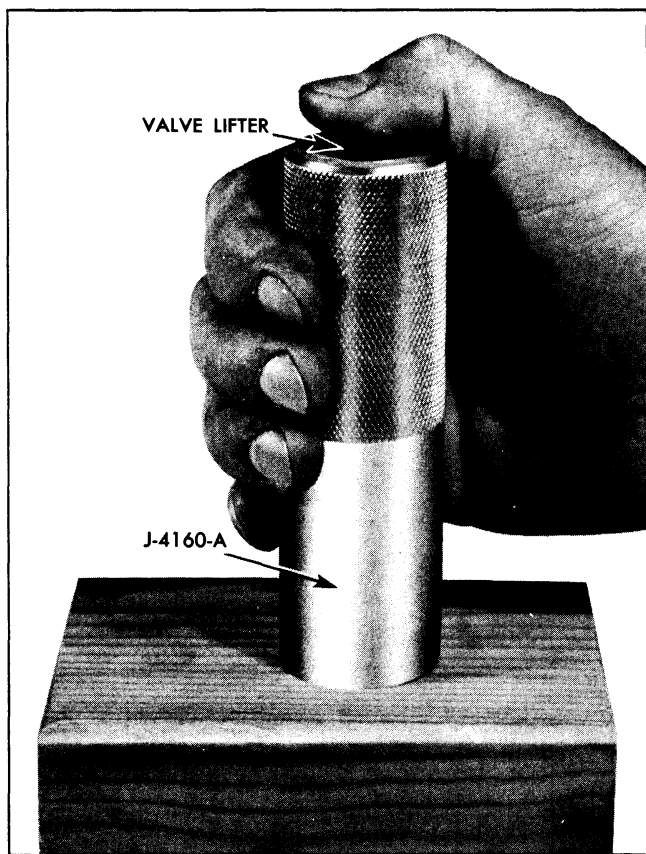

Fig. 6-27 Removing Stuck Plunger with J-4160-A
2. Invert lifter and allow push rod seat and plunger to slide out of body. If plunger sticks in body, place lifter in large end of hydraulic valve lifter plunger remover J-4160-A, with push rod end of lifter downward. Hold tool firmly in hand with thumb over lifter body and sharply strike the tool against a block or wood (Fig. 6-27) until plunger falls out.